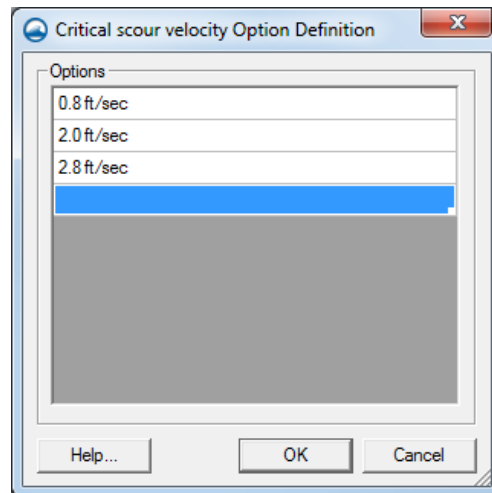

Figure 1 Critical scour velocity Option Definition dialog
10. For the fifth parameter, enter “Critical scour velocity” as the *Name*, select “options” as the *Type*, and click the **Define opts...** button in the *Minimum* column to bring up the *Critical scour velocity Option Definition* dialog (Figure 1).